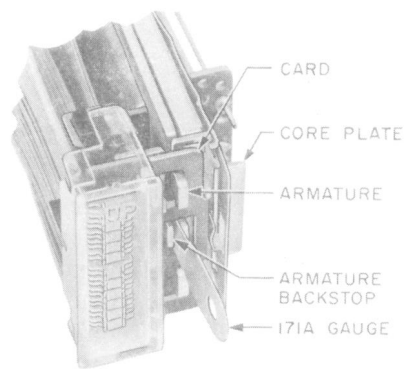

Fig. 9—Gauge Inserted Between Armature and Armature Backstop of AL-Type Relay
(1) **AL-Type Relays:** Take care that the front edge of the gauge rests against the core plate as shown in Fig. 9. Make sure that the long axis is horizontal and that the gauge is not inserted beyond the front of the core plate.